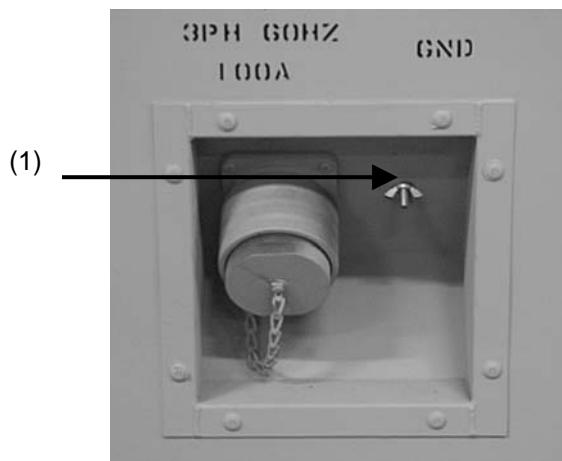

Figure 2-17. Power Input Receptacle
- g. Connect grounding rod to GND terminal (1) of 120/208 VAC, 3-Phase, 60 Hz power input panel (Fig 2-17). Clamp one end of ground wire to wire clamp on rod and other end under wing nut of ground post.